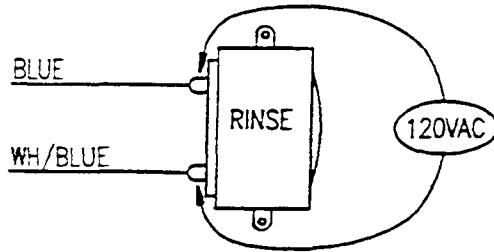

Figure 6-10. Float Rinse Solenoid Valve
8. Connect the voltmeter across the float high level switch- Refer to Figure 6-10 and connect the voltmeter leads to the red wire connections at the fill solenoid and test point 2. Check for 115/120 VAC across these test points.